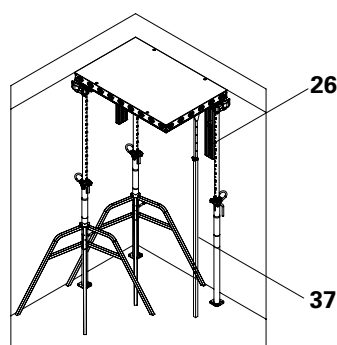

Fig. D2.05
7. Secure the DP panel (**10**) on both walls with the DUO 82 wall holder (**26**). (Fig. D2.05)